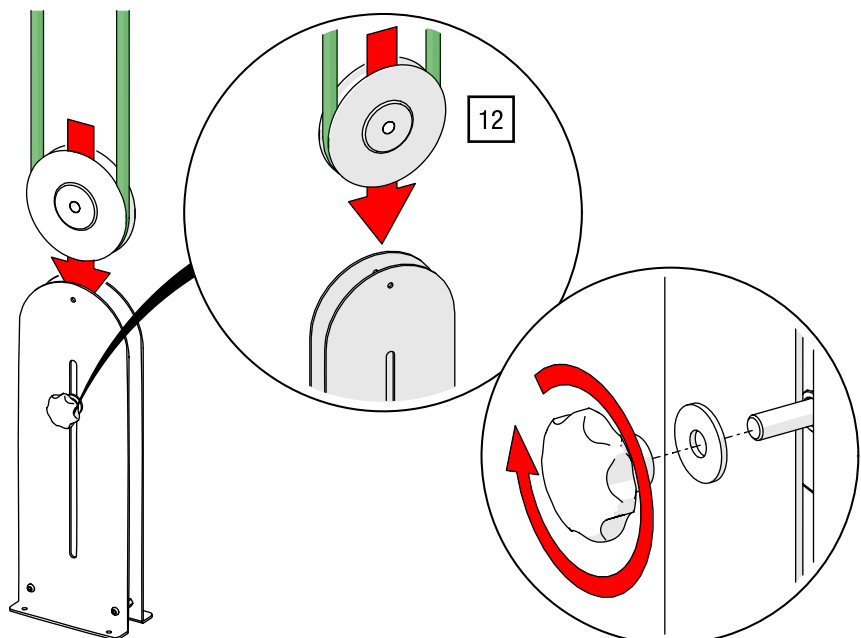

Fig. 122: Manual drive ROPE-DRIVE – Insert hemp rope and mount pulley
12. Place the hemp rope around the pulley, insert the pulley into the housing, and loosely re-collect the axle with the star grips (see Fig. 122).